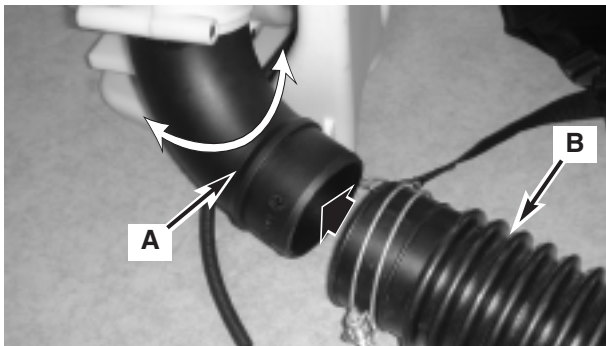
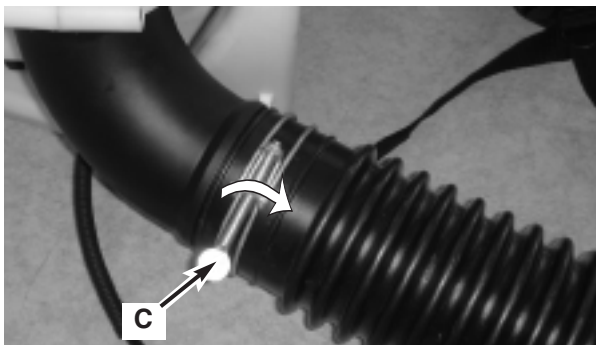

Fig. 1
Fig. 2
Connect the flex tube (B) to the fan's outlet tube (A) (Fig. 1) with a hose clamp (C) (Fig. 2) and tighten securely (Fig. 2).